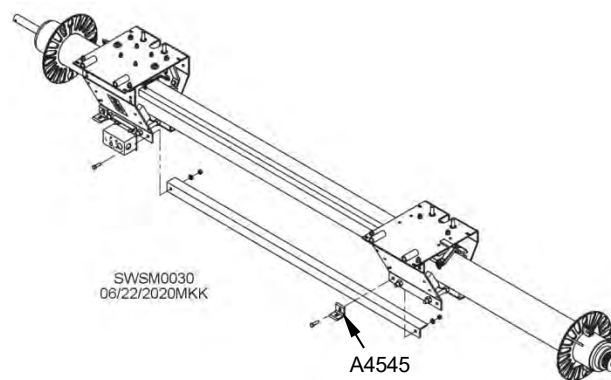

Figure 9 - Backside View of Fastir Tie Bar Installation
- 9 Bolt tie bar to lower inside of back plates on carriages as shown in **Figure 9.** Use 5/16" x 1" bolts pointing inward, one stabilizer arm bracket (A4545), and 5/16" lock washers and nuts. Tighten using 1/2" wrench.